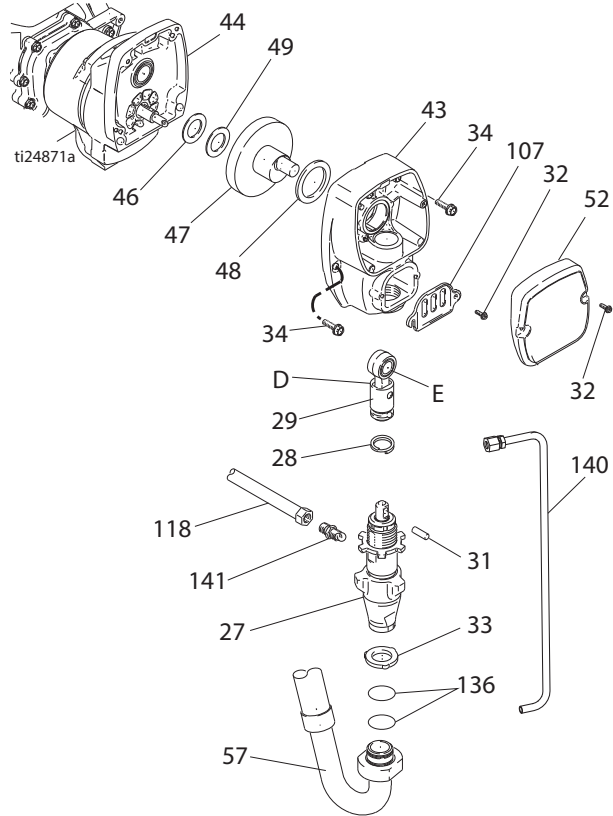

FIG. 2
2. FIG. 2. Remove screws (32) and front cover (52).
4. Remove four screws (34) from drive housing (43).